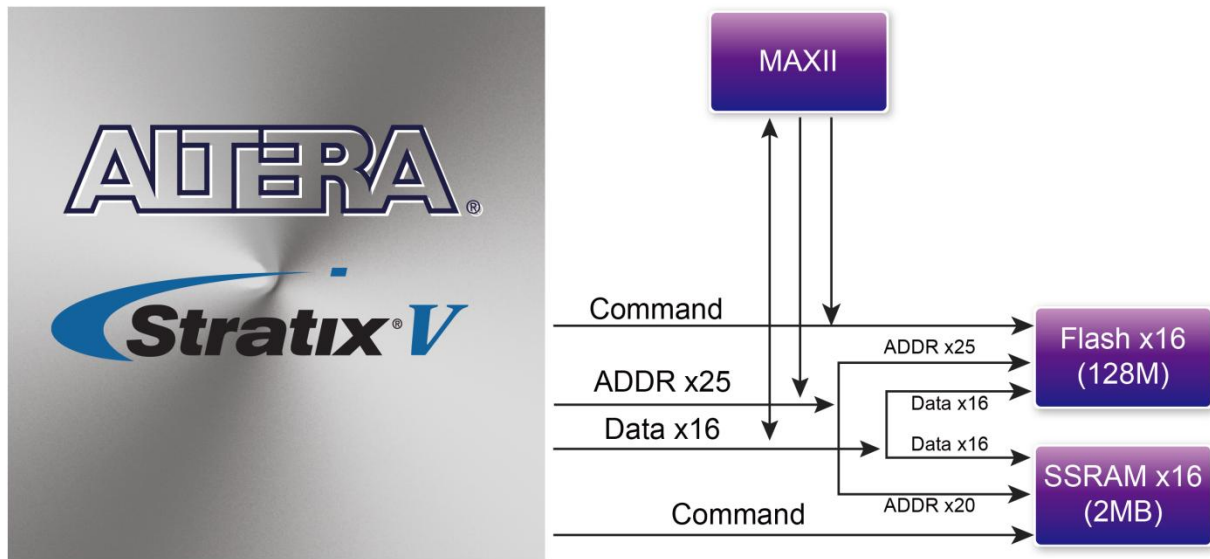

Figure 2-12 Connection between the Flash, Max and Stratix V GX FPGA
The flash has a 16-bit data bus and allow for FPP x16 configuration. This device is part of the shared flash and MAX (FM) bus, which connects to the flash memory and MAX II CPLD (EPM2210) System Controller. The SSRAM also has a 16-bit data bus and share address and data bus with the flash. **Figure 2-12** shows the connections between the Flash, SSRAM, MAX and Stratix V GX FPGA.